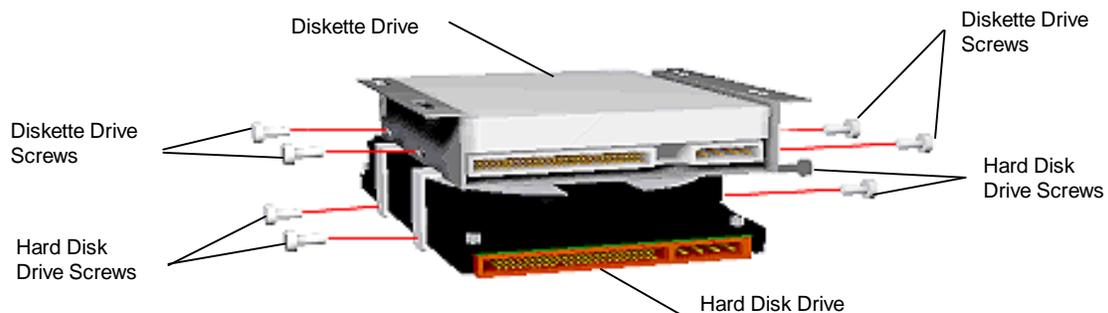

Figure 5-7 3 1/2-Inch Diskette and Hard Disk Drive Screws
5. Remove the four 3 1/2-inch diskette drive screws; two on each side of the drive bracket (see Figure 5-7).
Remove the two 3 1/2-inch hard disk drive screws; two on each side of the drive bracket (see Figure 5-7).